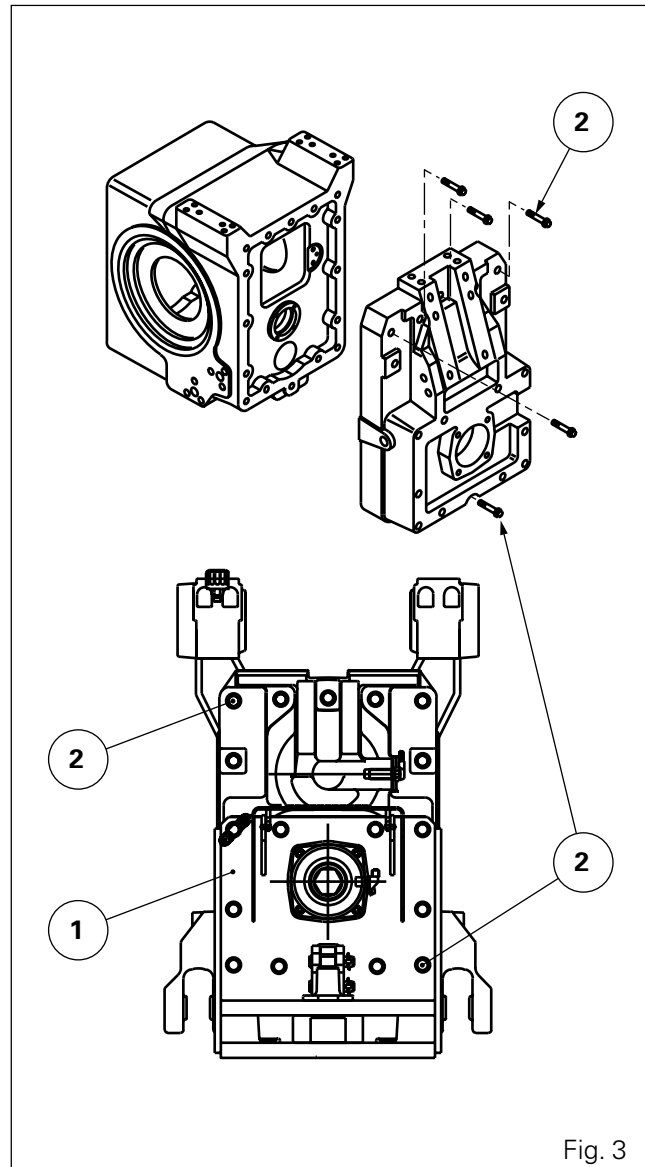
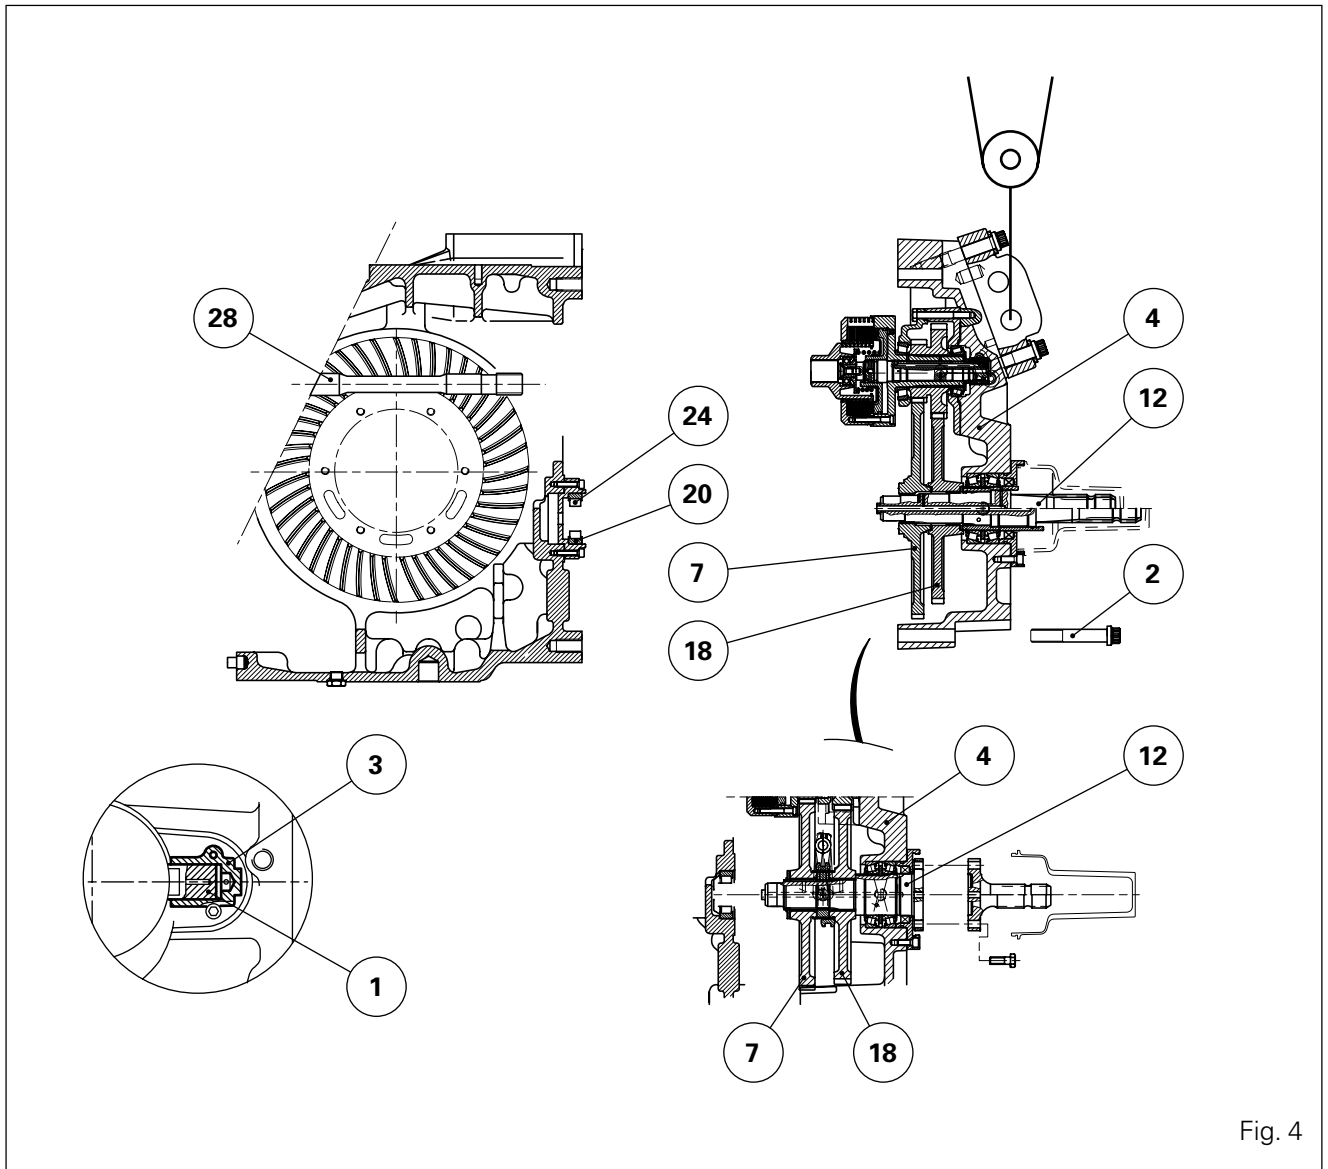

Fig. 3
Fig. 4
7. Assisted by an operator, or using a suitable sling, remove support hook (1) (Fig. 3).
B . Disassembling (Fig. 4)
C . Reassembling (Fig. 4)
12. Check that piston (1) in the PTO brake slides freely. Place the piston in abutment on cylinder (3) (Fig. 4) to allow passing the PTO clutch during reassembly of the housing.
13. Coat friction washer (20) with miscible grease and apply against bearing (24) (removable-shaft PTO only).
14. Ensure that driven pinions (7) and (18) are correctly positioned on shaft (12) and that they rotate normally (PTO all types).
15. Position complete housing (4) (Fig. 4) on the guide studs installed previously.
16. Progressively slide the housing onto the studs in order to engage the splines of shaft (28) in the clutch splines, and those on end of shaft (12) inside bearing (24).
17. Offer up the PTO housing to the centre housing. Install the support hook (1) (Fig. 3). Remove the guide studs. Install screws (2) (Fig. 3 and 4) and torque to 480-640 Nm (apply Loctite 542).